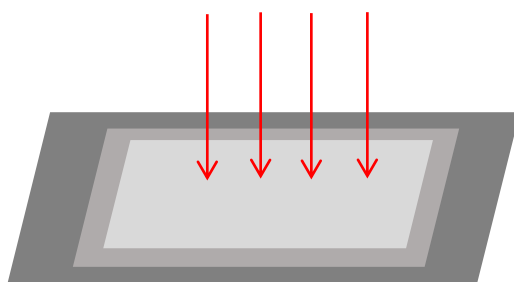

Figure 7 Photovoltaic module mounting
8.4.2. Carefully place the module onto the areas where the structural adhesive has been applied. Apply even pressure directly onto the top surface of the module to press and flatten the module, ensuring full and uniform adhesion between the module and the substrate. Do not apply excessive localized pressure, as this may damage the module. The area covered by the structural adhesive shall be slightly larger than the module, as shown in Figure 7. In accordance with the structural adhesive manufacturer's instructions, do not move or otherwise handle the module until the structural adhesive has fully cured.